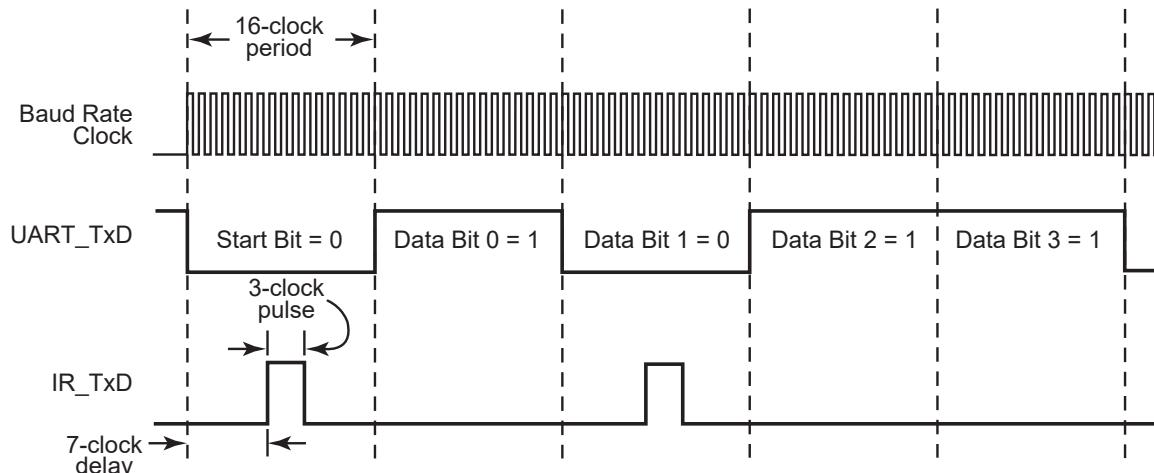

Figure 27.Infrared Data Transmission
Each UART bit is 16-clocks wide. If the data to be transmitted is a logical 1 (High), the IR_Tx_D signal remains Low (0) for the full 16-clock period. If the data to be transmitted is a logical 0, a 3-clock High (1) pulse is output following a 7-clock Low (0) period. Following the 3-clock High pulse, a 6-clock Low pulse completes the full 16-clock data period. Data transmission is displayed in Figure 27. During data transmission, the IR receive function should be disabled by clearing the IR_RxEN bit in the IR_CTL reg to 0. The SIR data format uses half-duplex communication; the UART does not transmit data while the receiver decoder is enabled.